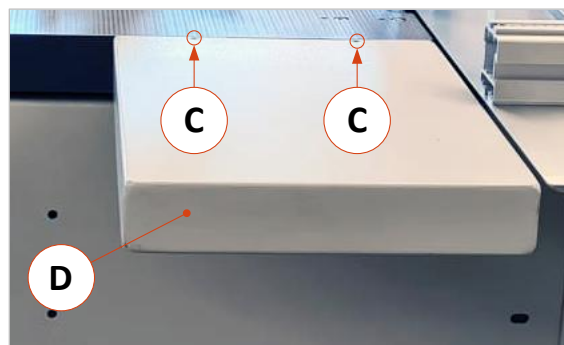

Figure 46: Height adjustment screws
- Mount the two supplied table legs (B) in the threaded sockets on the underside of the tabletop as shown in the figure. Then tighten them both well.
- Loosen the two screws (A) located in the machine body with an SW 8 Allen key and unscrew them until you can hook the other side of the tabletop (D) between the washers and the machine body (see enlarged views in the Figure).
- Align the table side flush with the machine table edge using screws (A) and the inclination to the machine table edge using screws (C).
- For this purpose there are (as also shown in ⇒ Figure 46) two small holes with height adjustment screws in the upper side of the table top. For adjustment, an SW 3 Allen key is required.
- After the adjustment is complete, tighten the screws (A) well.
- The height of the side facing away from the machine is adjusted via the two adjustable feet (E). This requires an SW 19 open-ended spanner.